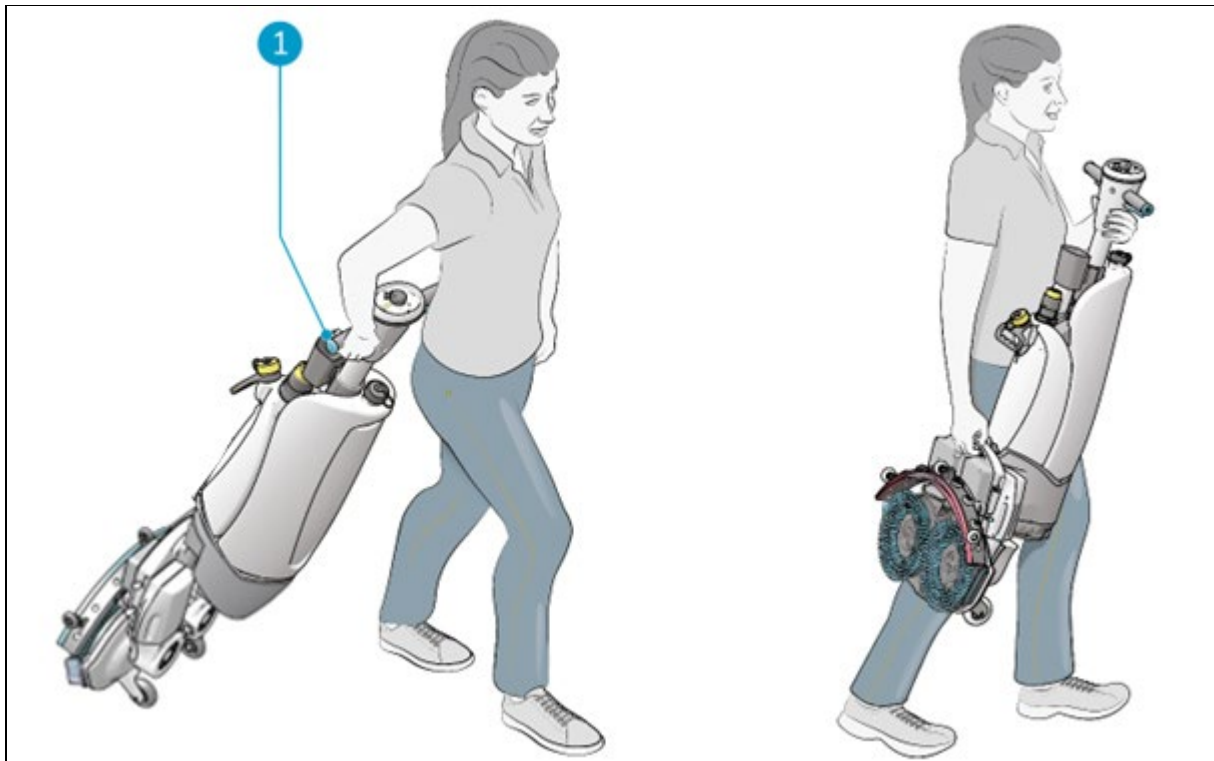

Figure 18
2. Hold the handle with one hand (Figure 18, pos. 1).